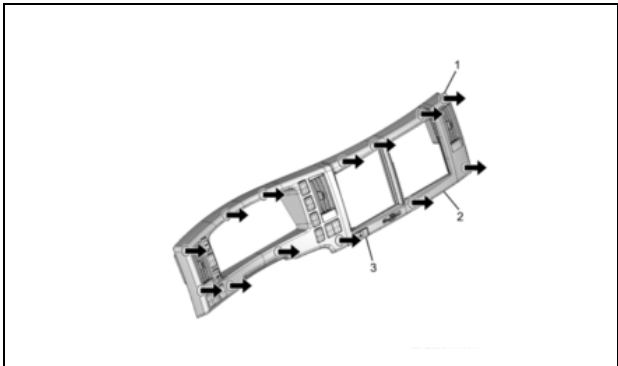

Figure 42
37. Place the meter cluster bezel onto the IP and be sure to connect all switches. Press the meter cluster bezel back into place. (See Figure 42.)